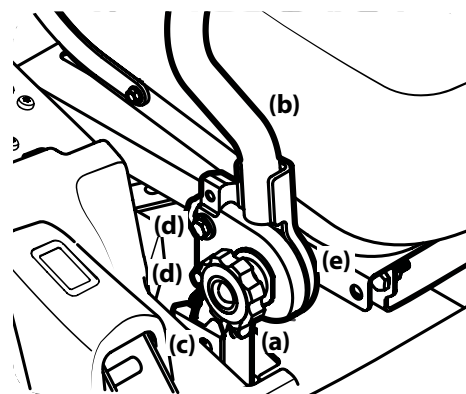

Figure 4-5
- Loosen the drive control lever knobs (a) on the side of the drive control levers (b). See Figure 4-5.
- Secure in place by tightening the drive control lever knob (a). See Figure 4-5.